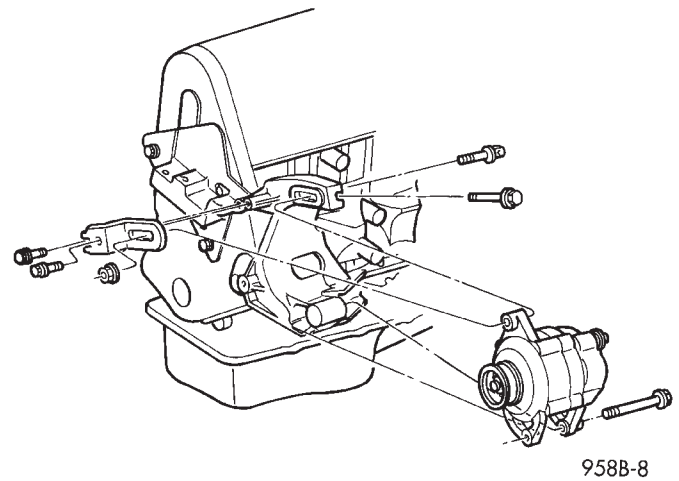
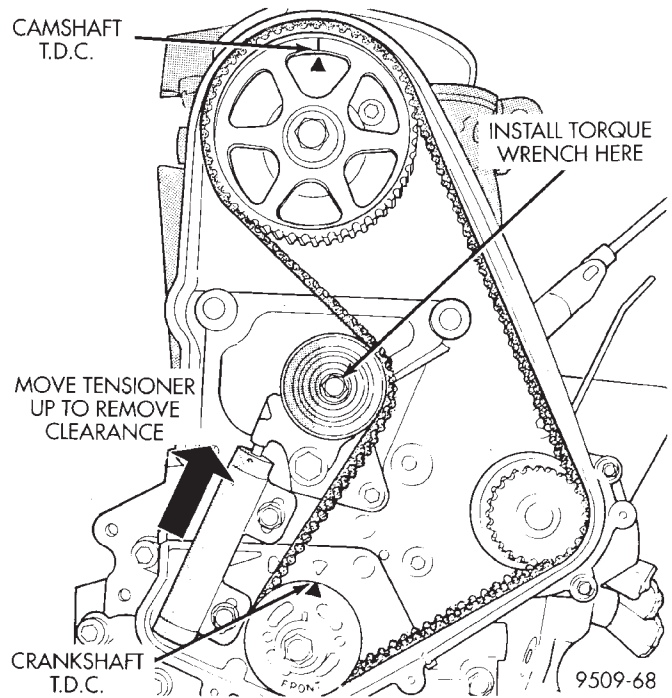
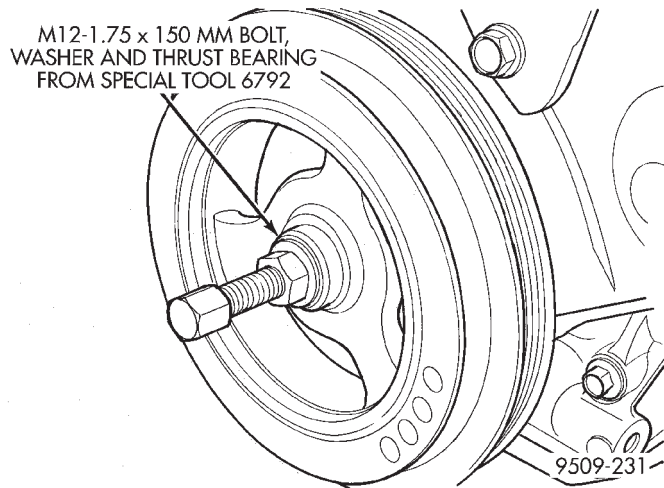

Fig. 61 Generator and Brackets
Fig. 70 Adjusting Timing Belt Tension
Fig. 71 Crankshaft Damper—Installation
- (5) Lower vehicle and place a jack under engine.
- (6) Remove right engine mount. Refer to procedure in this section.
- (7) Remove generator and bracket (Fig. 61). Refer to Group 8C, Charging System for specific procedure.
(8) Move crankshaft sprocket to TDC to take up belt slack. Install tensioner to block but do not tighten fasteners.
(9) Using a torque wrench on the tensioner pulley apply 28 N-m (250 in. lbs.) of torque (Fig. 70).
(10) With torque being applied to the tensioner pulley move the tensioner up against the tensioner
pulley bracket and tighten fasteners to 31 N-m (23 ft. lbs.) (Fig. 70).
(11) Pull tensioner plunger pin. Pretension is correct when pin can be removed and installed.
(12) Rotate crankshaft 2 revolutions and check the alignment of the timing marks (Fig. 70).
(13) Install front half of timing cover.
(14) Install engine mount bracket.
(15) Install generator bracket to engine (Fig. 61). Tighten attaching bolts to 61 N-m (45 ft. lbs.).
(16) Install generator (Fig. 61). Refer to Group 8C, Charging System for procedure.
(17) Install right engine mount. Refer to procedure in this section.
(18) Remove jack from under engine.
(19) Install crankshaft damper using M12-1.75 x 150 mm bolt, washer, thrust bearing and nut from Special Tool 6792. Install crankshaft damper bolt and tighten to 142 N-m (105 ft. lbs.) (Fig. 71).
(20) Install accessory drive belts. Refer to Group 7, Cooling System Accessory Drive section for procedure.
(21) Raise vehicle on hoist and install right inner splash shield.
(22) Lower vehicle and connect negative cable.